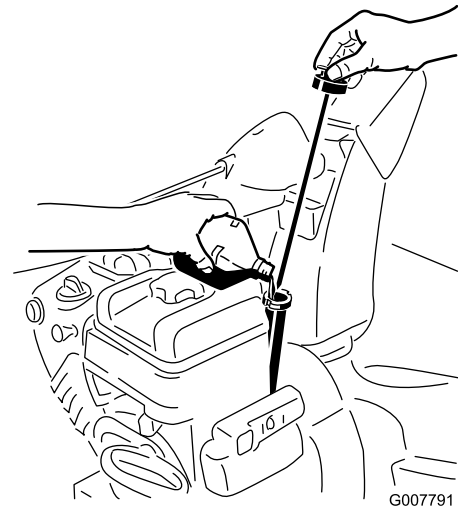

Figure 19
1. Remove the dipstick and **slowly** pour oil into the oil fill tube to raise the oil level to the Full mark on the dipstick. **Do not overfill.** (Figure 19).